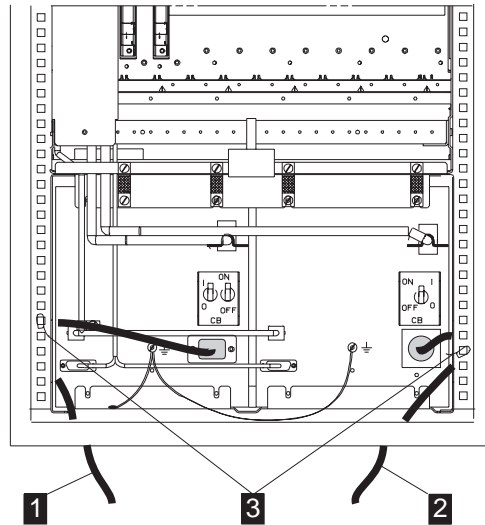

Figure 4-12. Power Cable Routing
4. \_\_\_\_ Route the power cable **2** (PN 51G7934) to the customer's power socket (see Figure 4-12 on page 4-11).